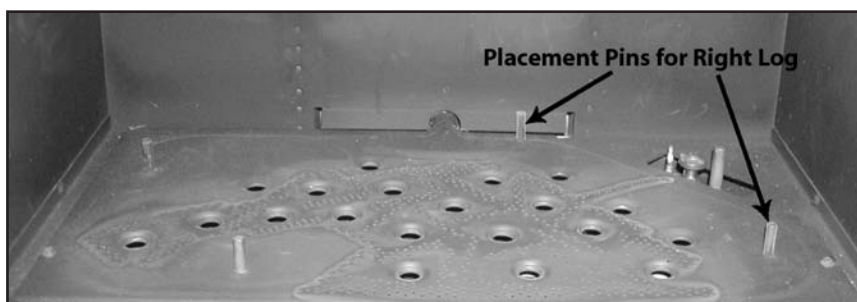

Figure 48: Step 1 of Log Placement.
2. Place the log set into the firebox. Locate each log by seating it down onto the burner tray support pins. Follow Figures 48 to 54 proper log placement.